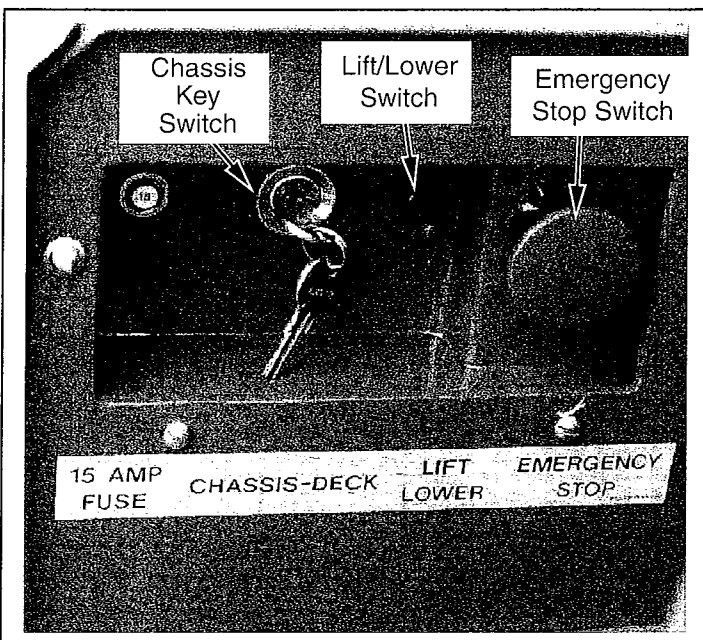

Figure 2-3: Chassis Control Module
8. Pull out on chassis and platform emergency stop switches to turn ON (Figure 2-3 and 4 or 5).
9. Turn the Chassis Key Switch (Figure 2-3) to **CHASSIS**.
10. Push chassis lift switch (Figure 2-3) to **LIFT** position and fully elevate platform.
15. Turn the chassis key switch (Figure 2-3) to **PLATFORM**.
- A. Position rotary selector switch (Figure 2-3) to **DRIVE LOW**.